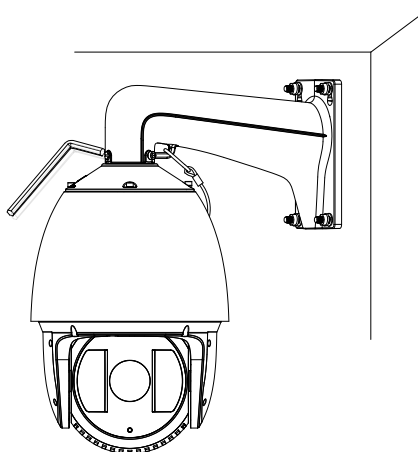

Figure 1-22 Secure the Speed Dome
- 6) Secure the two lock screws with the Allen wrench as shown in Figure 1-22.